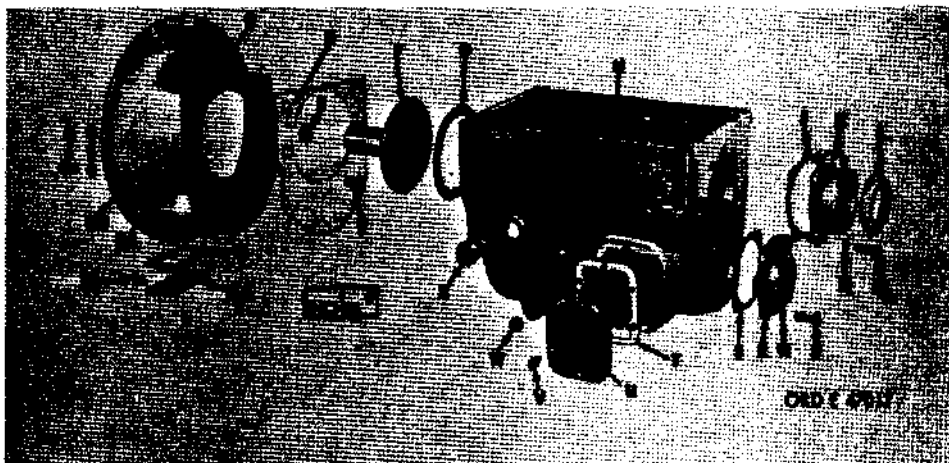

Figure 261. Transmission case and bearing caps - exploded view
transmission case and align reverse idler shaft with flat milled side toward countershaft (EE, fig. 260), so that countershaft rear bearing cover (R, fig. 261) will lock shaft.
- (c) Place countershaft rear bearing cover gasket (S, fig. 261) in position and install countershaft rear bearing cover (R, fig. 261). Add five lockwashers (Q, fig. 261) and cap screws (P, fig. 261) and tighten securely.